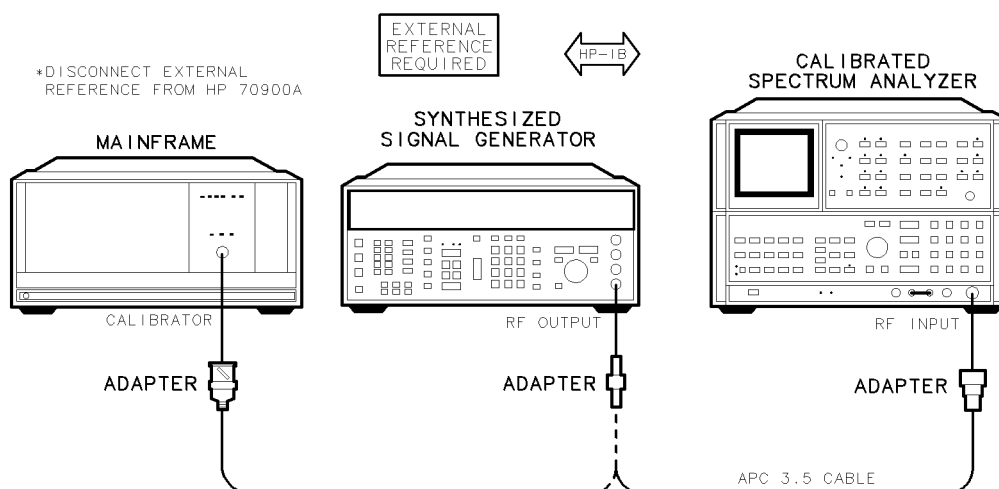

Figure 7-8. Reference Oscillator Accuracy Test Setup
1. Connect the HP 8663A synthesized signal generator's RF OUTPUT to the HP 8566A spectrum analyzer's RF INPUT using the adapter, as shown in Figure 7-8. Don't connect the DUT to the external frequency reference.
3. After measuring and adjusting for this frequency error, connect the DUT to the spectrum analyzer's RF INPUT using the adapters, as shown in Figure 7-8. The spectrum analyzer then measures the frequency of the 300 MHz calibrator.